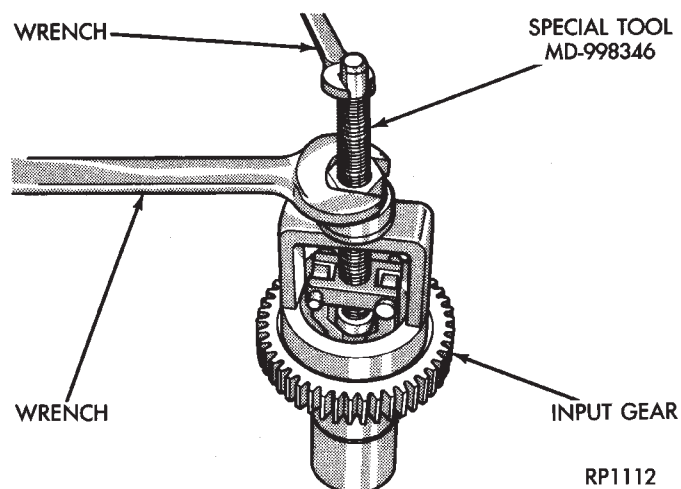

Fig. 33 Removing Mainshaft Pilot Bearing From Input Gear
(10) Remove mainshaft pilot bearing from input gear with Tool MD-998346 and two suitable size open end wrenches (Fig. 33).